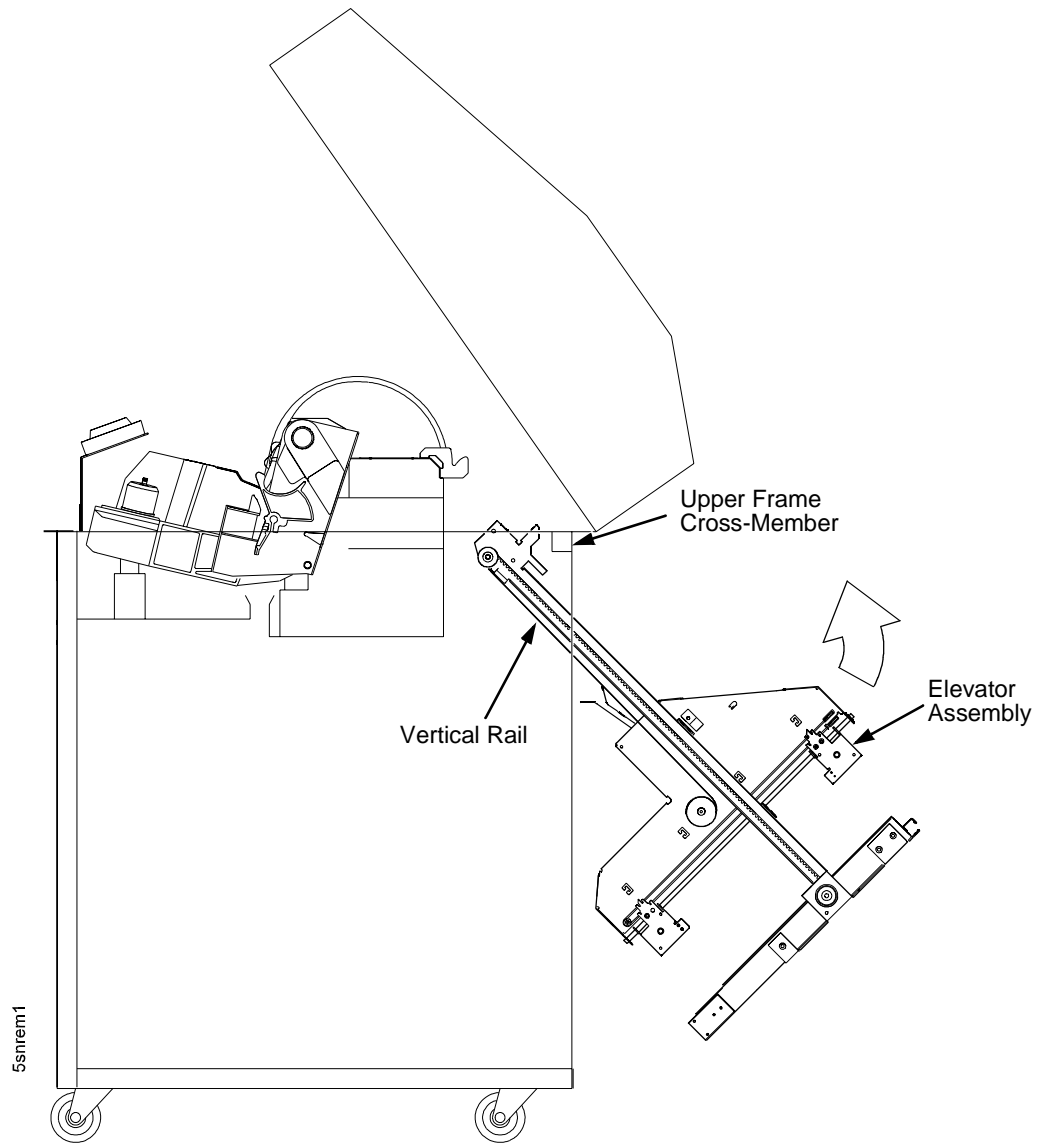

Figure 70. Removing the Stacker Assembly
15. Slide the stacker assembly slightly to the right to clear the air exhaust duct. Tilt the vertical rails toward the front of the printer until they clear the upper frame cross-member. Lift and slide the stacker assembly to the rear and angle it out of the cabinet, as shown in Figure 70.